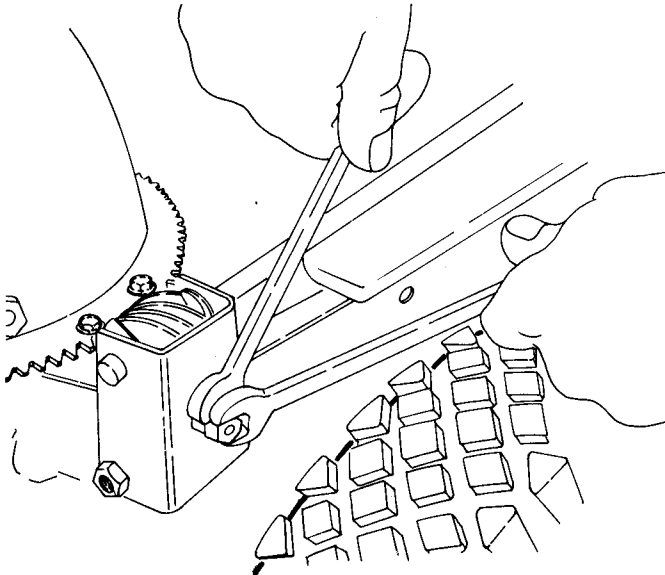
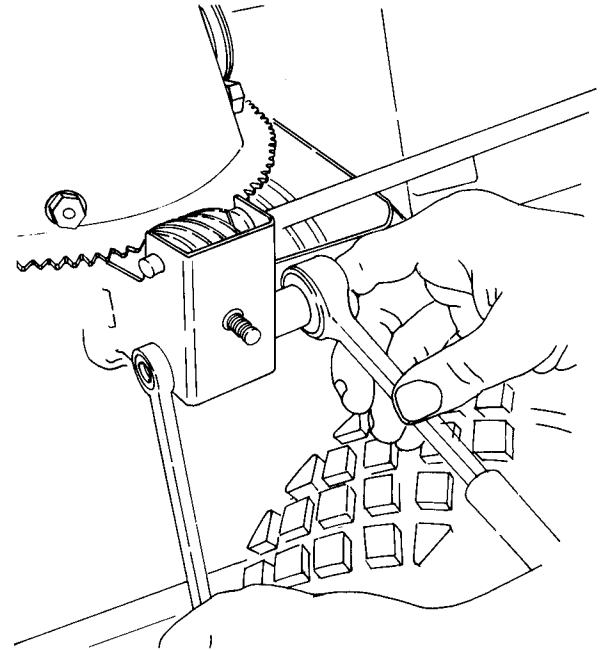

FIGURE 3.1 — REMOVING CRANK JAM NUTS
FIGURE 3.2 — REMOVING CRANK CAPSCREW
**STEP 1.** Disconnect the chute crank worm assembly from the side of the main frame by removing the two jam nuts (figure 3.1), then pull the capscrew holding the worm gear bracket to the frame (figure 3.2) and slide the crank worm components toward the rear of the unit and out of the way.